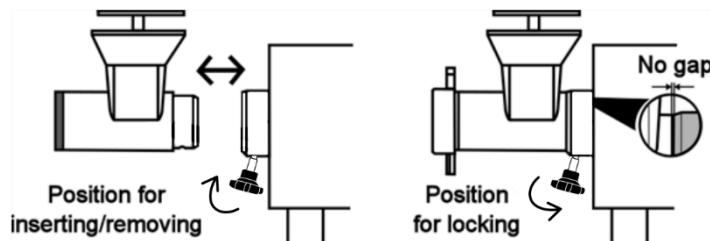

FIG 2. HEADSTOCK INSTALLATION
2.- Turn clockwise the headstock Knob (8) to be able to remove the headstock (13) (see Fig 2).
a) After assembling Headstock (13), lock it turning counterclockwise the headstock knob (8) (See Fig 2) to fix the headstock.
b) The knife (18) must be inserted into worm's shaft. The sharp end must face forward.
c) Place plate (19) centered against knife (18) assuring the notch matches the Headstock's inserted pin.